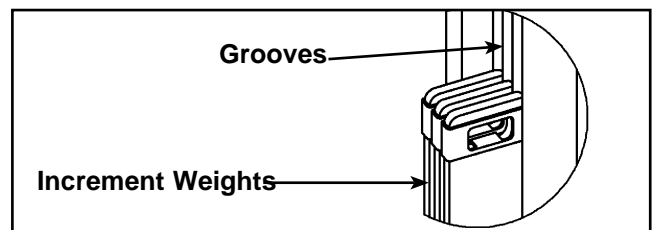

Figure 10
- H. Reinstall the six increment weights that were removed in step 6B. See Figure 10.